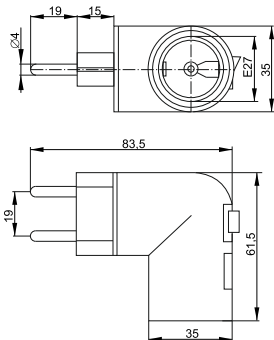

Figure 26 – PR7/16-27-R02 adapter
- remove the bottom from the lamp socket case. To do this, insert a flat head screwdriver into the rectangular slot until it stops (figure 26) and gently push outward to release one retainer lock pin. After that, while holding the first retainer lock pin; press the second retainer lock pin in the same way;